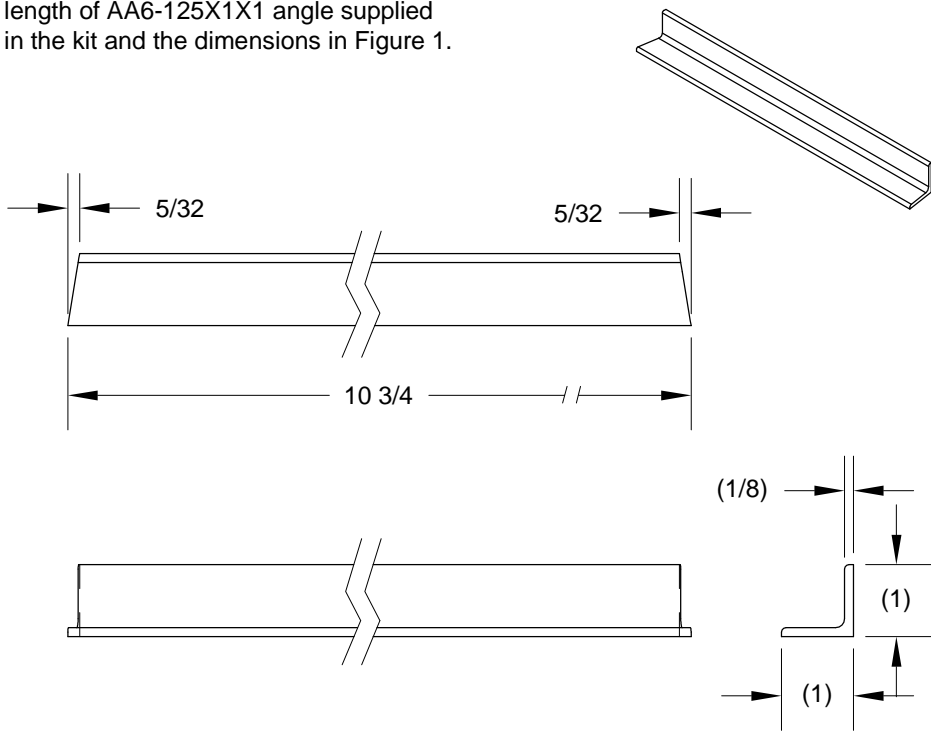

FIGURE 1: F-1010A HORIZONTAL STABILIZER ATTACHMENT ANGLE
Step 1: Make the F-1010A Horizontal Stabilizer Attachment Angle from the length of AA6-125X1X1 angle supplied in the kit and the dimensions in Figure 1.